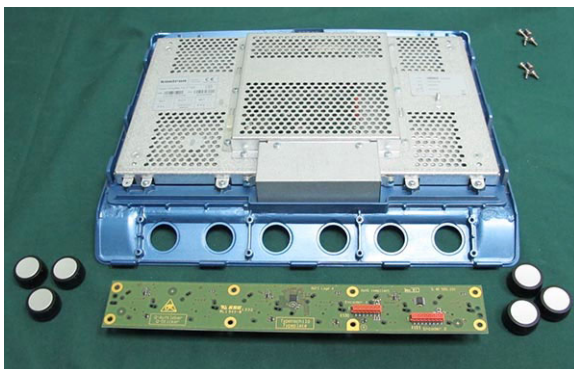

Figure 8-48 Touch Screen and Rotaries Board - Rotary Knobs Removed
- 4.) Remove the six rotary knobs from the Rotaries Board - Figure 8-48.